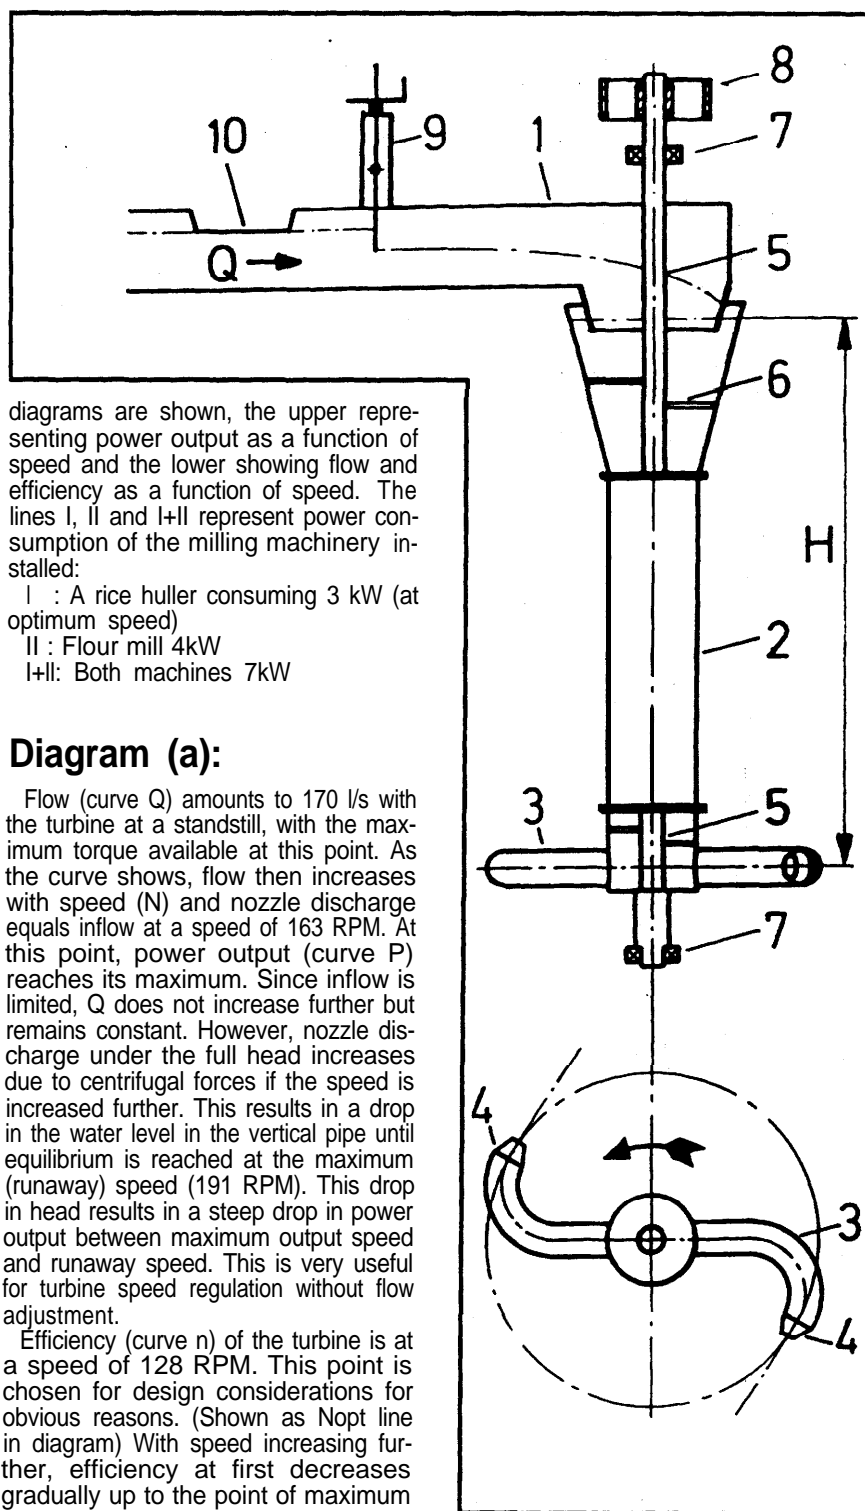

fig. 1 Basic design of a Segner Turbine
The Segner turbine consists of an inlet channel(1) [see Fig 1] with a cylindrical funnel through which water enters a vertical pipe (2). At the bottom of this pipe, two (or more) radial pipes (3) are provided with bends, to which nozzles (4) are fixed. This arrangement is done in such a way, that a water jet through these nozzles has an exactly tangential direction. The vertical pipe is held in place by a shaft (5) with spokes (6) which is supported by an upper and lower bearing (7), so that the vertical pipe with the radial arms at the bottom is